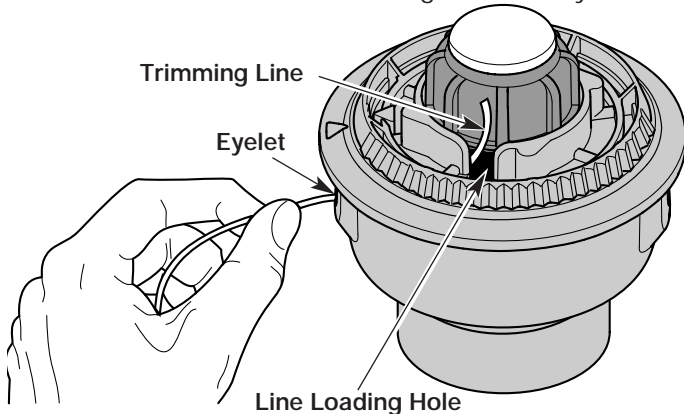

Figure 16
3. Pull old line out of the line loading and line locking holes. See Figure 16 and 17.
4. Insert a piece of trimming line straight into one of the two eyelets in the outer spool. Push it up through the line loading hole in the inner reel. See Figure 16. Do not bend the line when inserting it into the eyelet.